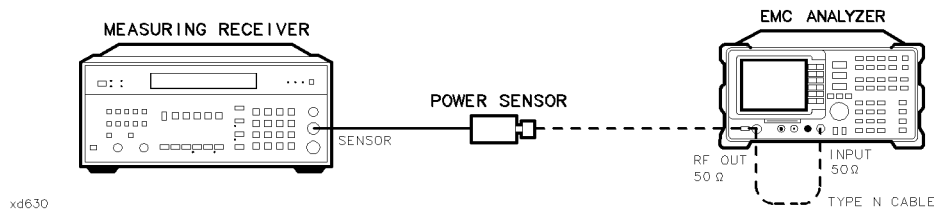

Figure 2-77.
1. Connect the Type N cable between the RF OUT 50 Ω and INPUT 50 Ω connectors on the EMC analyzer. See Figure 2-77.